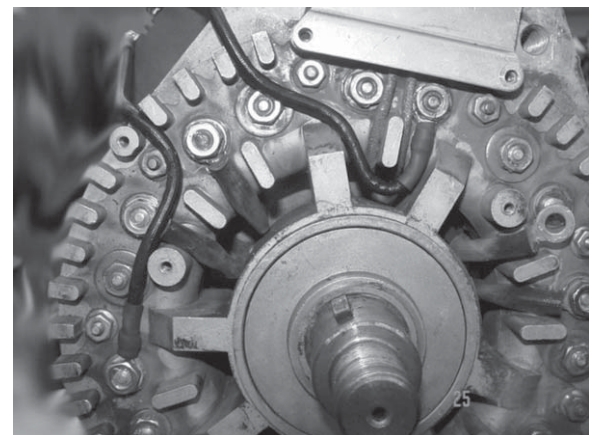

FIGURE 3
4. Attach other end of black wires to diodes. Follow routing shown in Figure 3. Tighten hardware to 3.4 Nm/30 lb. in.